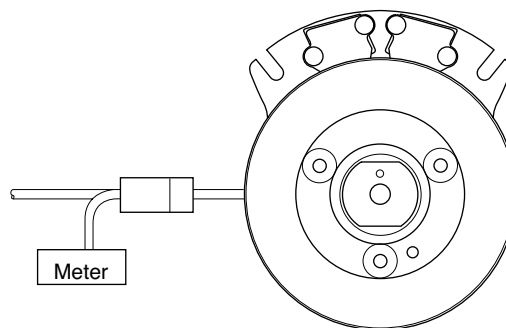

Figure 6
Step 2. Measure the supply voltage at the clutch (See Figure 6)